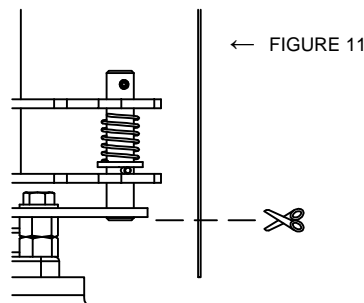

FIGURE 11
7. With the handle still in the top position, hold the cable next to the Rotation Stop Pin (#23343) and cut the cable near the bottom of the pin (see figure 11).